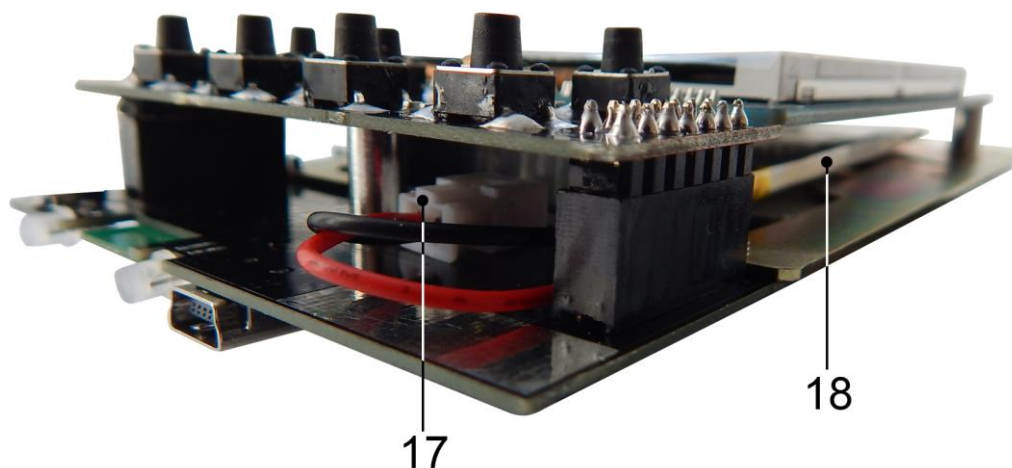

Figure 9.4.3 - Replacing the battery
9.4.6. The battery (18) is located on the chassis under the screen module and secured with double-sided tape. Carefully disconnect the battery connector (17) from the connector located on the PCB under the control button module (Figure 9.4.3). Remove the old battery (18) and remove the old double-sided tape that was attached to the chassis.